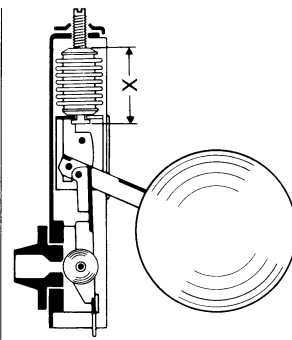

Fig. 7: Control unit Duplex
2. The factory setting of the bellows (thermostatic element) must not be modified. If the setting is inadvertently modified, an approximate adjustment may be obtained as follows: Press float slightly down until a resistance is felt. Adjust length of bellows (dimension X in fig. 7) to **32\*mm for DN 15-25 mm ( $\frac{1}{2}$ -1")**